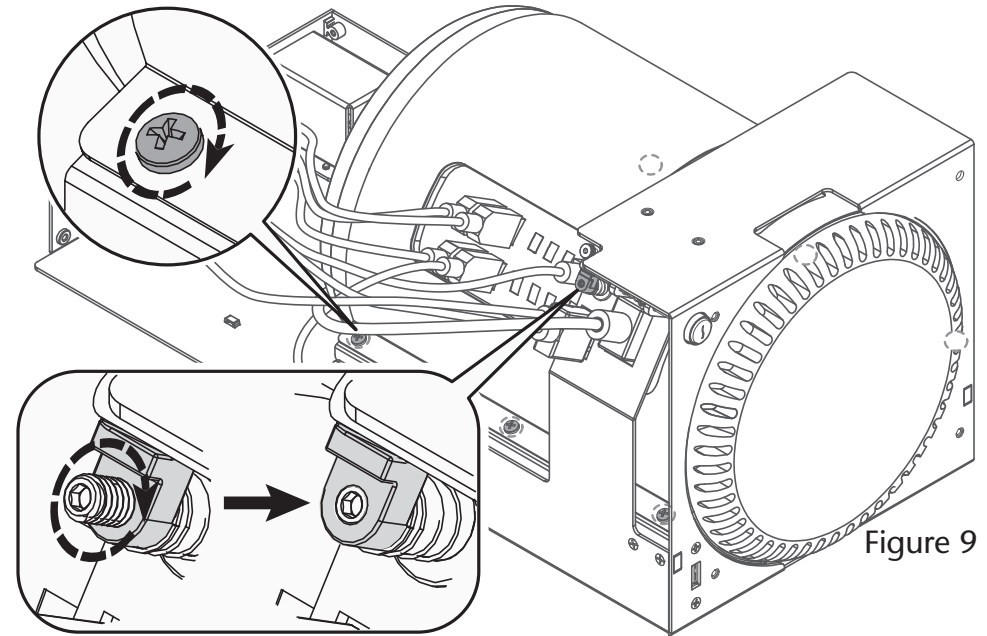

Figure 9
8. Tighten the six screws securing the computer mounting module's top bracket to its bottom bracket. Be certain to tighten the screws securely to prevent the computer from moving within the brackets (**Figure 9**).
9. Tighten the power button's set screw by turning it clockwise just until the top of the screw is flush with its housing (**Figure 9**).